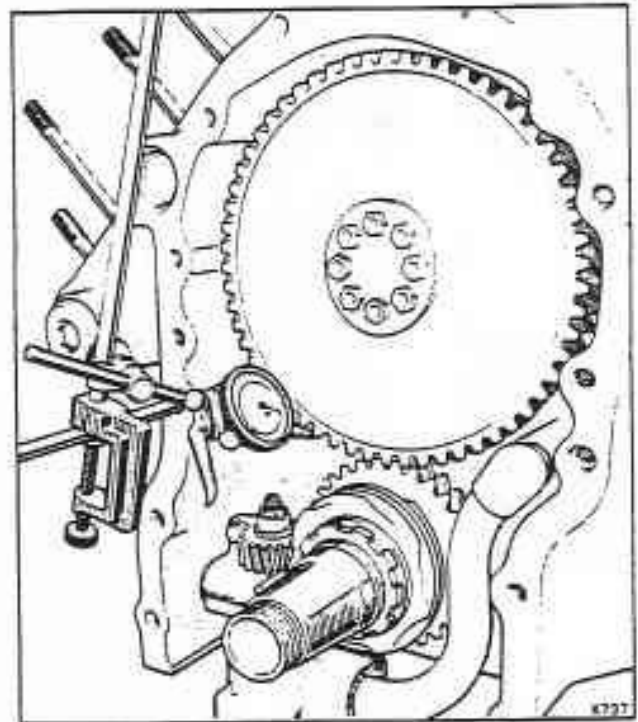

Fig. E7-10 Checking the timing gear run-out
4. Check the timing gear run-out as follows (see fig. E7-10).